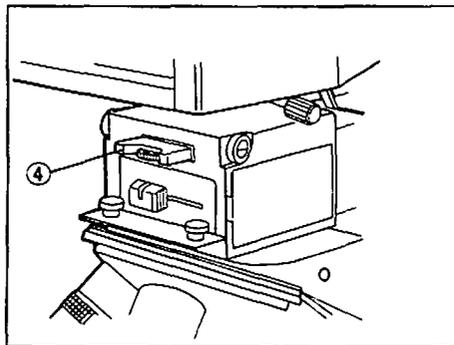

Fig. 70
- ★ When the BH3-UAN360 analyzer is in use, position the polarizer slider so that its "PO" inscription is facing the operator and turn the analyzer rotation dial so that the dot is also facing the operator (see Fig. 70 on page 34).